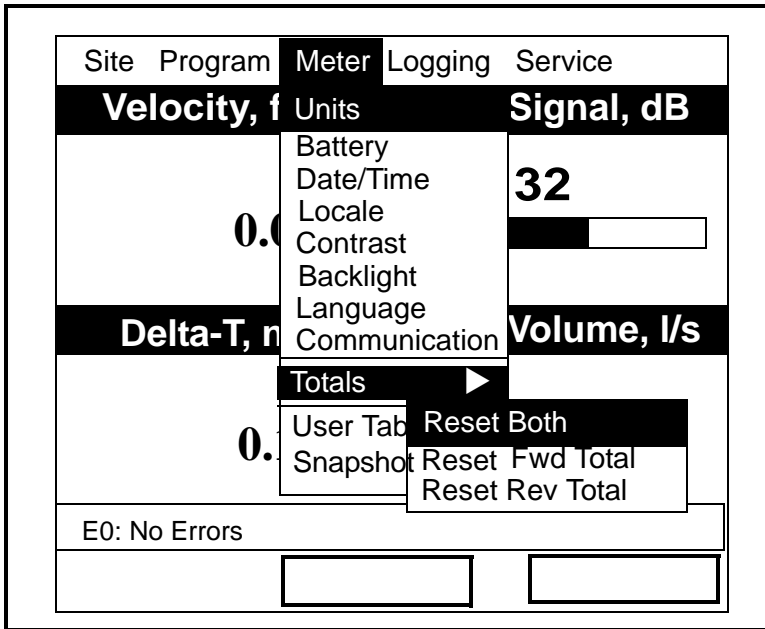

Figure 7-7: The Resetting Totals Menu
1. From the Meter menu, scroll to the Totals entry and press [ENTER]. The window now appears similar to Figure 7-7 below.